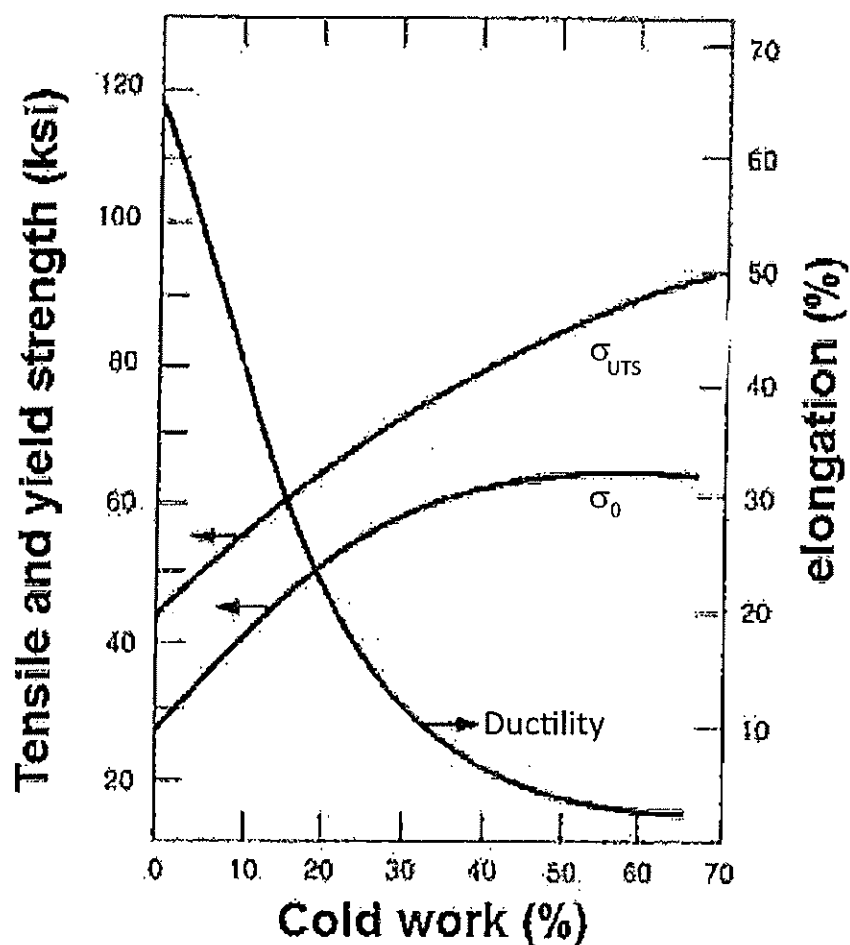

Figure 4. Percent cold work vs. tensile strength, yield strength and elongation for 70 wt% Cu – 30 wt% Zn alloy.
- a (100) plane, a (110) plane, a (111) plane and a (221) plane. [4%]
- (d) Calculate the resolved shear stress on the (111) $[0\bar{1}1]$ slip system of a unit cell in an FCC Nickel single crystal if a stress of 13.7 MPa is applied in the [001] direction of a unit cell. Use a schematic drawing to explain your calculation. [14%]
- ii. A sheet of the same Cu-Zn alloy is to be cold-rolled from 0.07 to 0.04 cm. Calculate the percent cold work, assuming the width change of the sheet can be neglected. Using the graph in Figure 4, estimate the tensile strength (in ksi), yield strength (in ksi) and elongation.